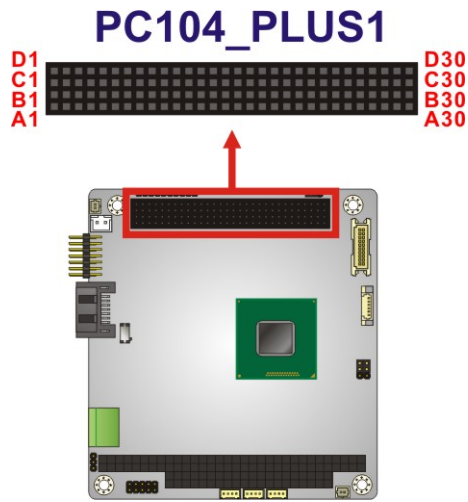

Figure 3-13: PCI-104 Connector Location
- CN Location:** See **Figure 3-13**